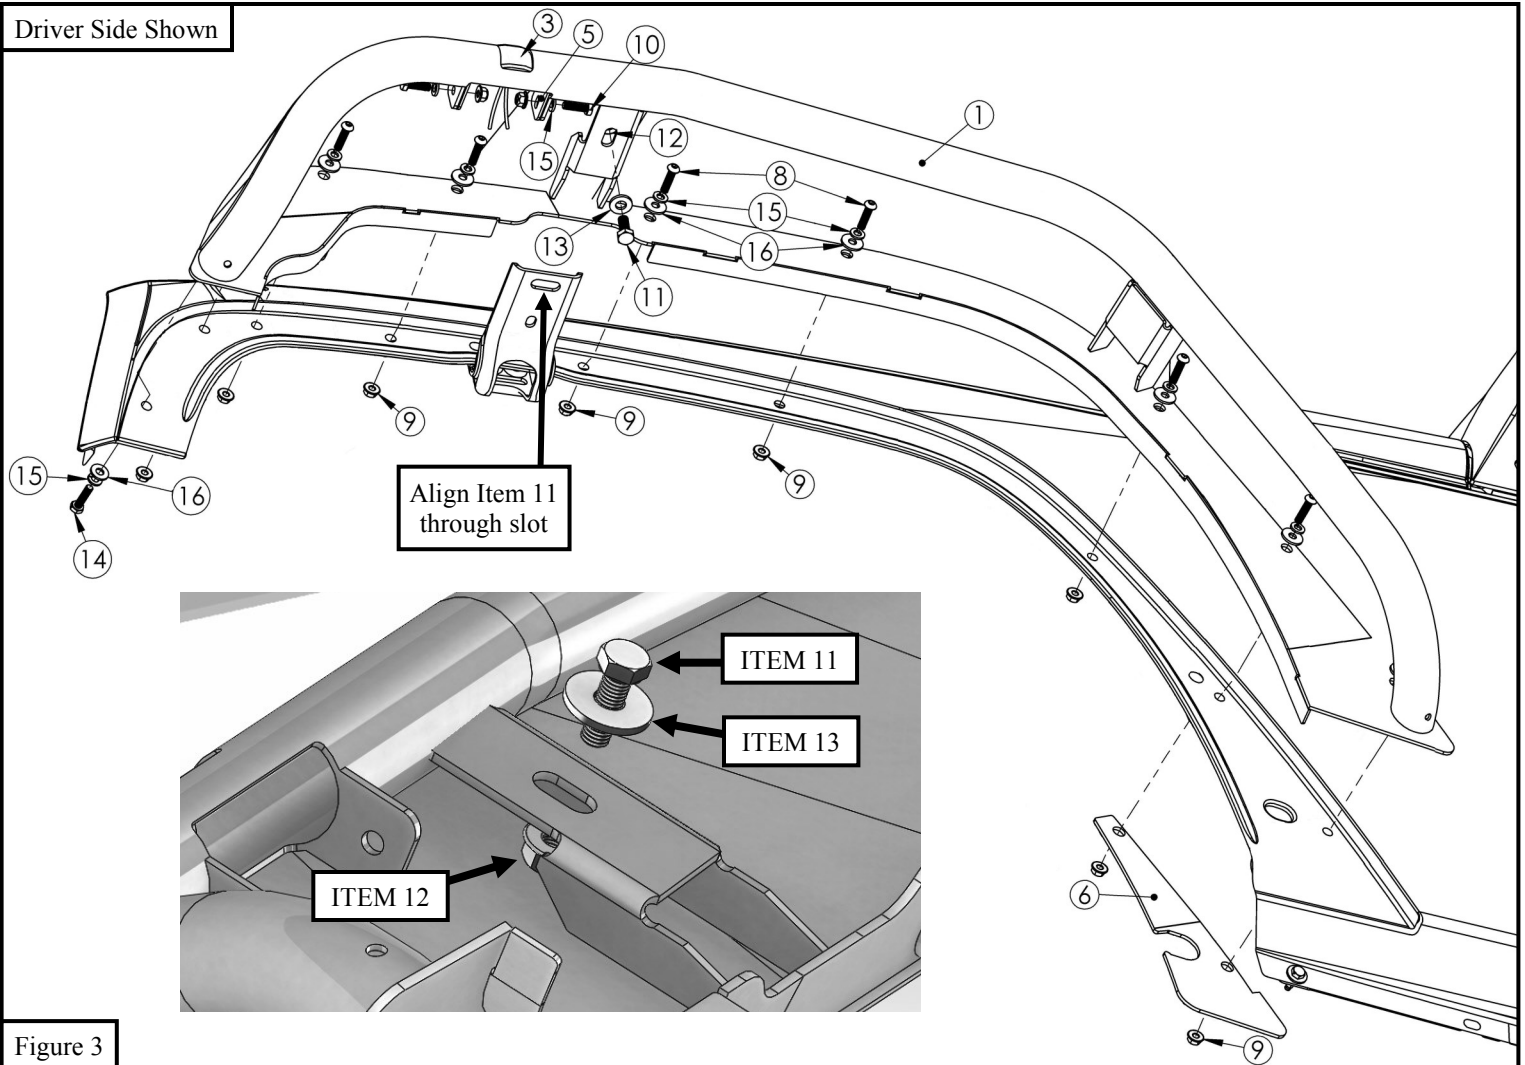

Figure 3
7. Align Front Fender with the vehicles fender area and loosely secure using the provided M6 and M8 hardware. **Refer to Figure 3.**